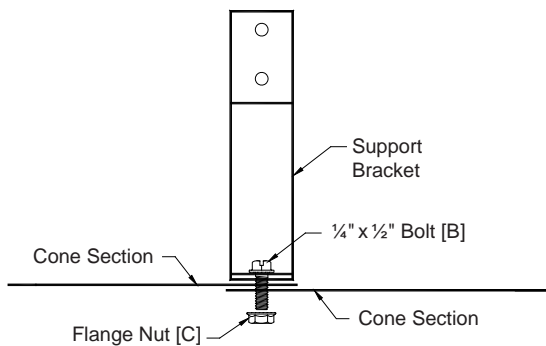
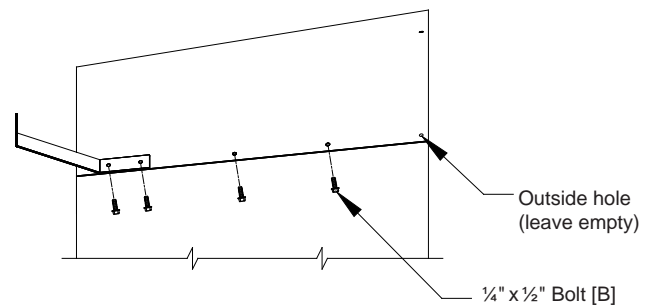

Figure 2A
Figure 2B
Join cone sections using (12) Bolts [B] and Nuts [C]. Bolt should be installed from the outside and go through bracket and two layers of cone. **See Figure 2A.** **DO NOT** tighten. Nuts should be started only one turn onto bolts at this time. **DO NOT** place bolts in outside holes at this time. **See Figure 2B.**